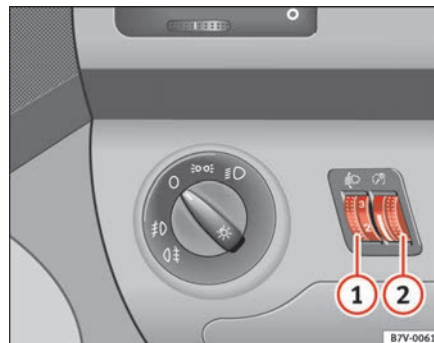

Fig. 71 Instrument panel: headlight range control
When the headlights are switched on, the brightness of the instruments and switch lighting can be regulated to suit your requirements by turning the switch ⇒ page 110, fig. 71 ①.